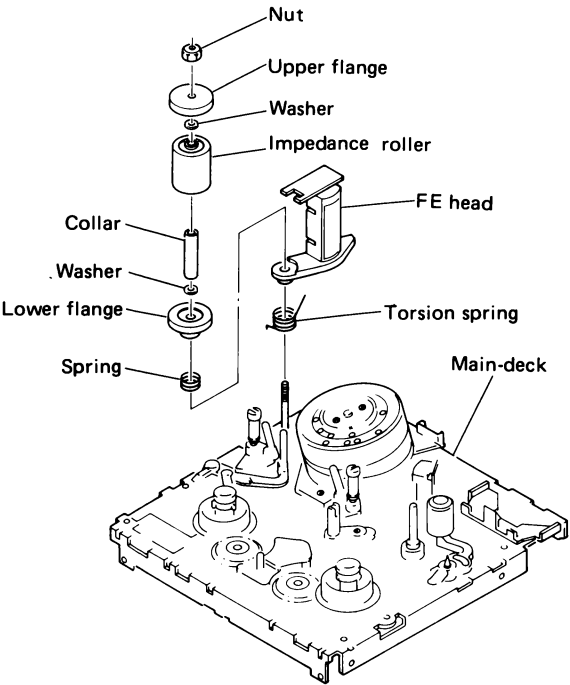

Fig. 2-7 F.E. head replacement
2.3.2 Full Erase Head (See Figure 2-7.)